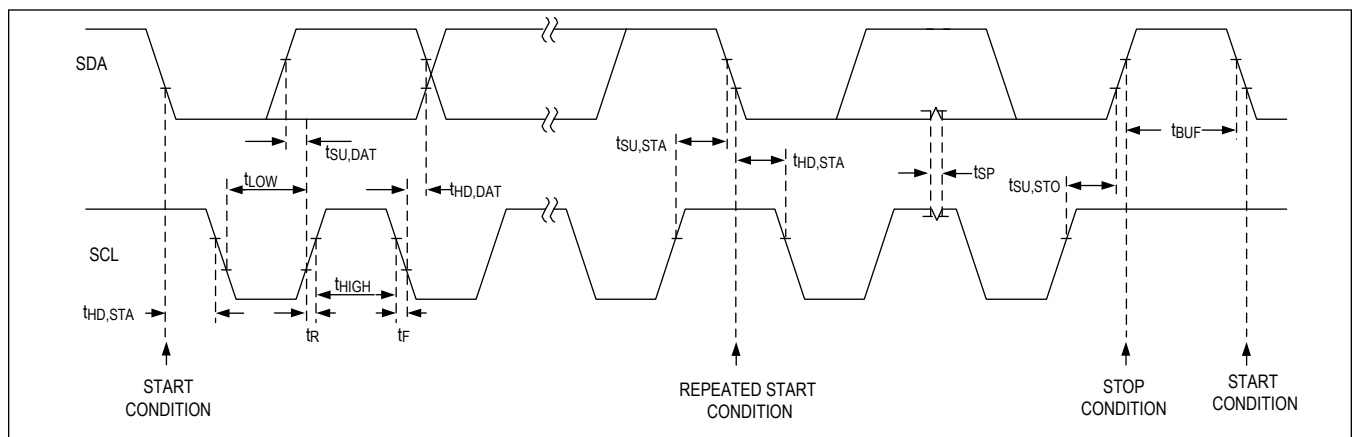

Figure 33. I2C Interface Timing Diagram
Figure 33 shows the 2-wire interface timing diagram. The master generates SCL and initiates data transfer on the bus. The master device writes data to the IC by transmitting the proper slave address followed by two register address bytes (most significant byte first) and then the data word. Each transmit sequence is framed by a START (S) or REPEATED START (Sr) condition and a STOP (P) condition. Each word transmitted to the IC is 8 bits long and is followed by an acknowledge clock pulse. A master reading data from the IC transmits the proper slave address followed by a series of nine SCL pulses. The IC transmits data on SDA in sync with the master-generated SCL pulses. The master acknowledges receipt of each byte of data. Each read sequence is framed by a START (S) or REPEATED START (Sr) condition, a not acknowledge, and a STOP (P) condition. SDA operates as both an input and an open-drain output. A pullup resistor, typically greater than 500Ω, is required on SDA. SCL operates only as an input. A pullup resistor, typically greater than 500Ω, is required on SCL if there are multiple masters on the bus, or if the single master has an open-drain SCL output. Series resistors in line with SDA and SCL are optional. Series resistors protect the digital inputs of the IC from high voltage spikes on the bus lines and minimize crosstalk and undershoot of the bus signals.